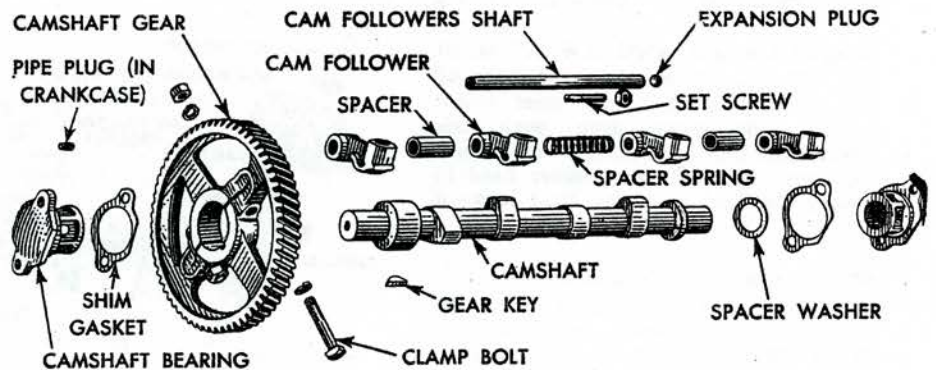

Fig. 7 Camshaft and related parts. Model D
**MODEL D**—Fig. 7. It is not necessary to take out the camshaft in order to remove the tappet levers. The procedure is to take off the radiator, rocker arm cover and push rods. Then, after removing the crankcase cover, remove the set screw and expansion plug from the tappet lever
**MODEL D**—Fig. 7. The camshaft is mounted on two bearings and end play is controlled by gaskets under the left-hand camshaft bearing. Add or remove gaskets as required to obtain  $\frac{1}{64}$  to  $\frac{1}{32}$ " end play.